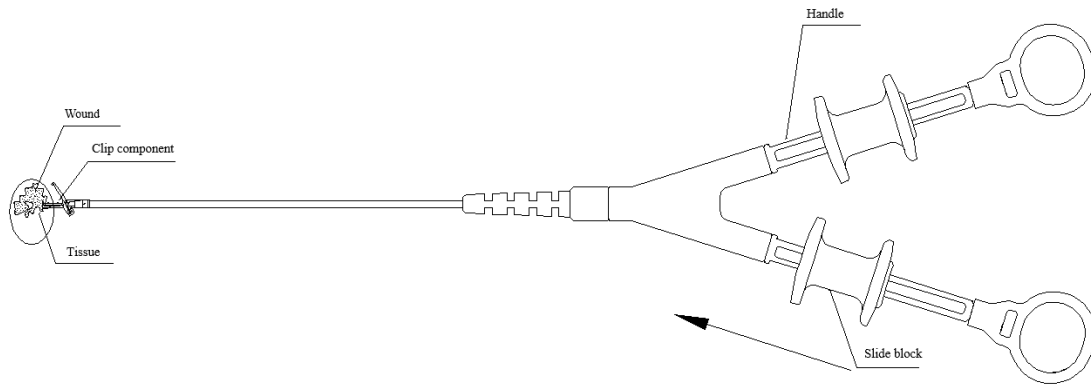
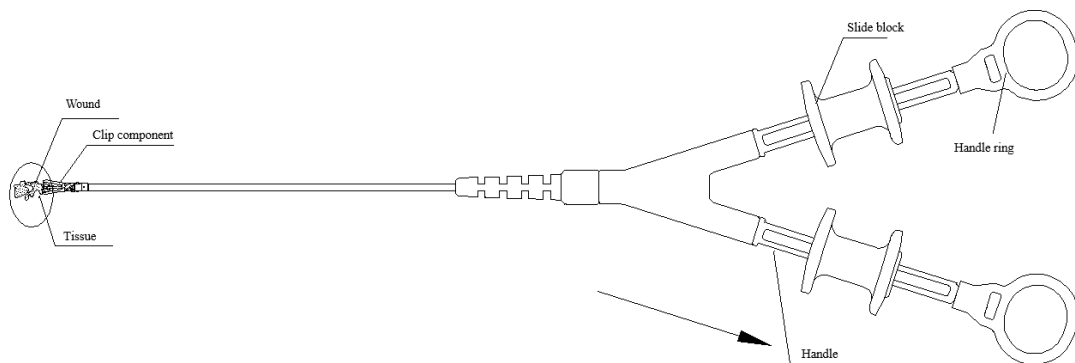

Fig 6 Open the other clip
Fig 7 Clamping
6. According to the third step, operate the slide block on the second handle to open the clip on the corresponding side (as shown in Fig 6); then according to the fourth step, complete the clamping of the clip on the tissue. (as shown in Fig 7)